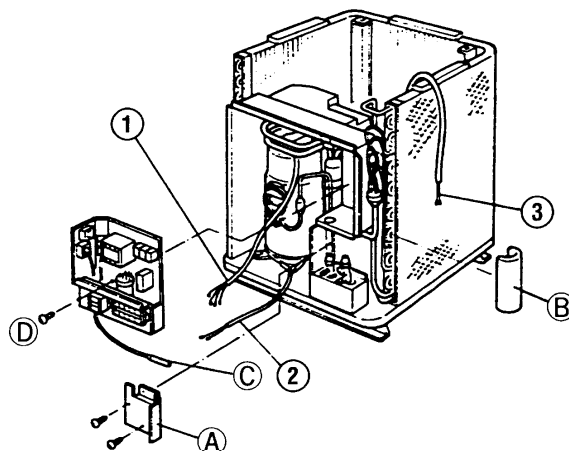

Fig. 19
- ① Compressor wire
- ② Crankcase heater wire
- ③ Four-way reversing valve wire
- ① Remove the cover plate (A).
- ② Remove insulation (B). Loosen and remove the sensor (C).
- 3) The electrical component box can now be removed by unscrewing one screw (D). Fig. 19